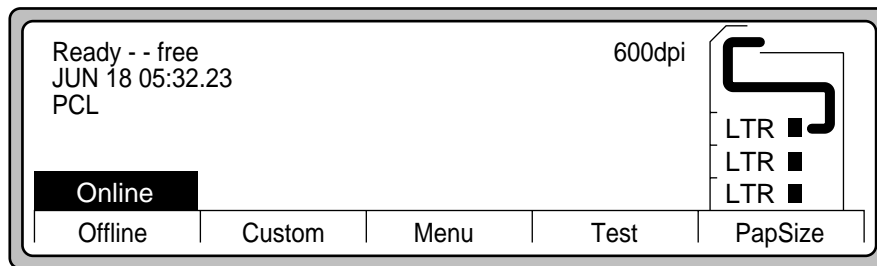

Figure A-1 Main Screen
1. Press the **Menu** button on the **Main Screen**. See Figure A-1.